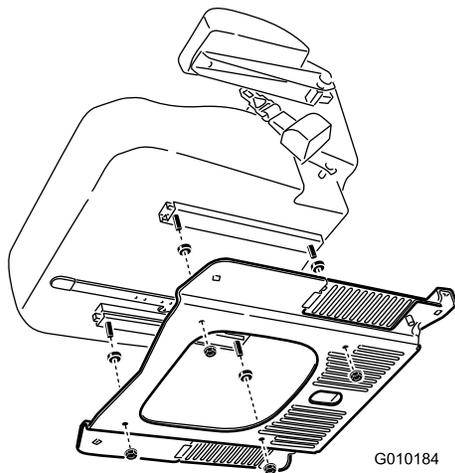

Figure 6
4. Remove the seat plate from the seat by removing the 4 spacers and 4 flange nuts (Figure 6).